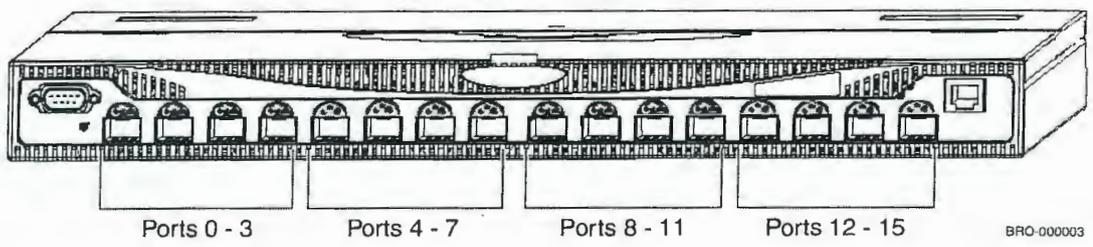
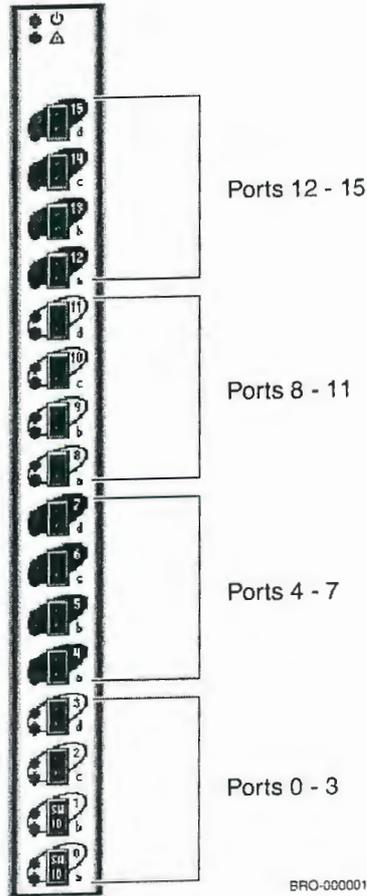

Figure 1-3 Quad and Port Groupings on a DS-16B2
Figure 1-5 Port Groupings on the Port Card of an ED-12000B
- ◆ Ports must reside in the same contiguous four-port groups. For example: 0-3, 4-7, 8-11, 12-15. All ports in the same trunking group must reside in the same quad; quads are groups of four adjacent ports that are marked in intervals on each switch. The first four ports on a switch comprise the first quad, and every group of four adjacent ports thereafter comprise another quad. Figure 1-3 through Figure 1-5 show the quads for various switch models.
Potential trunking groups are marked on the front of the switch, according to quad location. Figure 1-3 shows which ports on a DS-16B2 belong to the same quads.
Figure 1-5 shows which ports on an ED-12000B port card belong to the same quads.